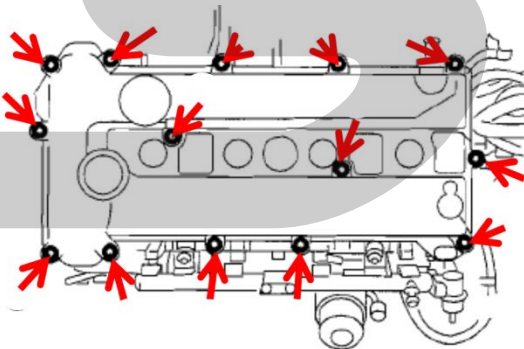

Figure 3a
- a) Use an 8mm socket wrench to remove the fourteen (14) 8mm bolts fastening the valve cover to the head (valve cover removed exposing camshafts in Figure 3a).